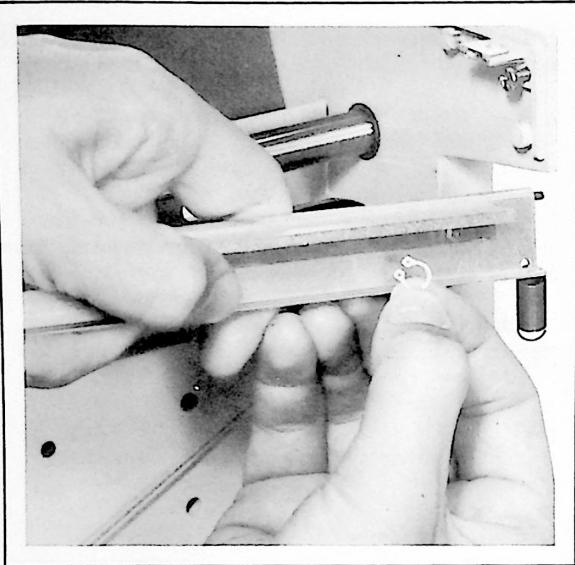

Figure 5-4. Pen Lift Bar Removal
b. Unhook spring at right side of pen lift bar. Snap off retaining ring at right end of pen lift bar. Lift bar up and out. See Figure 5-4.